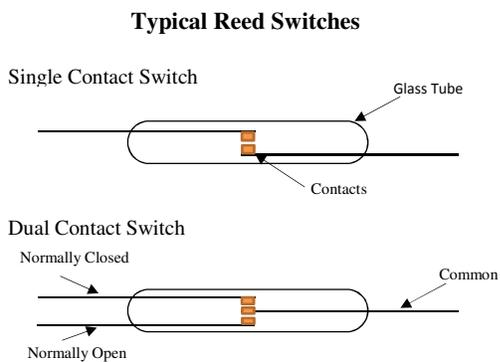

Figure 1
Magnetic reed switches are simple switches that change state in the presence of a magnetic field. Reed switches are available in a variety of shapes and sizes as well as with different functionality: Normally Open (NO) and Normally Closed (NC) switches, Single Pole Single Throw (SPST) as well a Single Pole Double Throw (SPDT), just to name a few. Figure 1 shows a few of the typical read switch varieties.